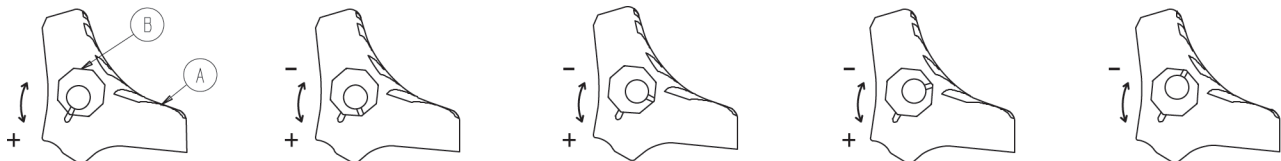

Figure 8: Wheel locking force adjustment
1. Using the 5/32" hex wrench and 7/16" combination wrench or socket, remove the socket screw from the center of the lock pedal. The wheel lock is initially assembled with the pedal set at the minimum locking force. The marker on the pedal (A) is aligned with the marker on the octagonal sleeve (B) (Figure 8 on page 36).
2. Remove the sleeve (B). Rotate the sleeve counterclockwise to increase the pedal locking force and clockwise to decrease the locking force. Insert the sleeve into the pedal (Figure 8 on page 36).